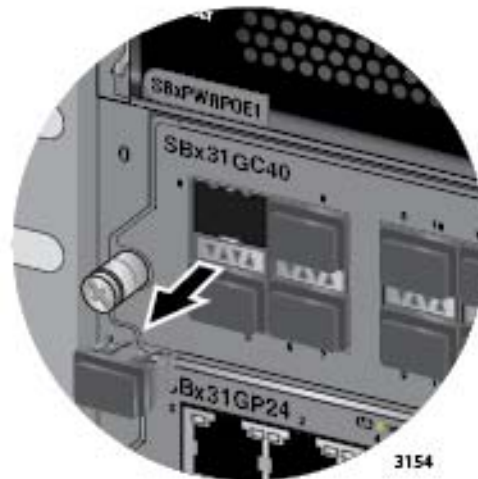

Figure 89. Removing the Dust Cover from a Transceiver Slot on the AT-SBx31GC40 Line Card
2. Remove the dust cover from the slot chosen for the transceiver. Figure 89 shows the dust cover being removed from the first slot on the line card in slot 0 of the chassis.